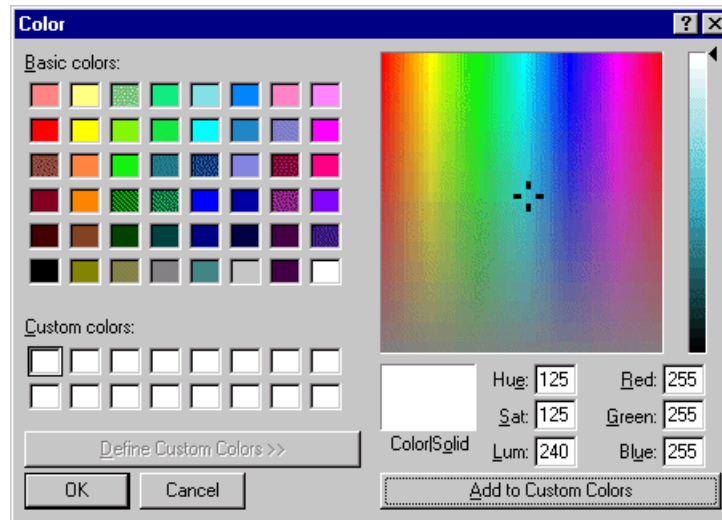

Figure 134. Color dialog box, with custom color controls shown
1. Choose **View | Color | Text** or **View | Color | Highlight** and the Color dialog box appears (Figure 134).